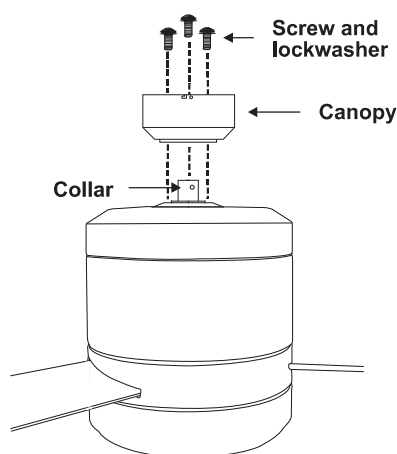

Fig.12
4. Place the ceiling canopy over the collar at the top of the motor. Align the mounting holes with the holes in the motor and fasten using the screws and lock washers provided. (Fig. 12)
5. Tighten the mounting screws securely. (Fig. 12)